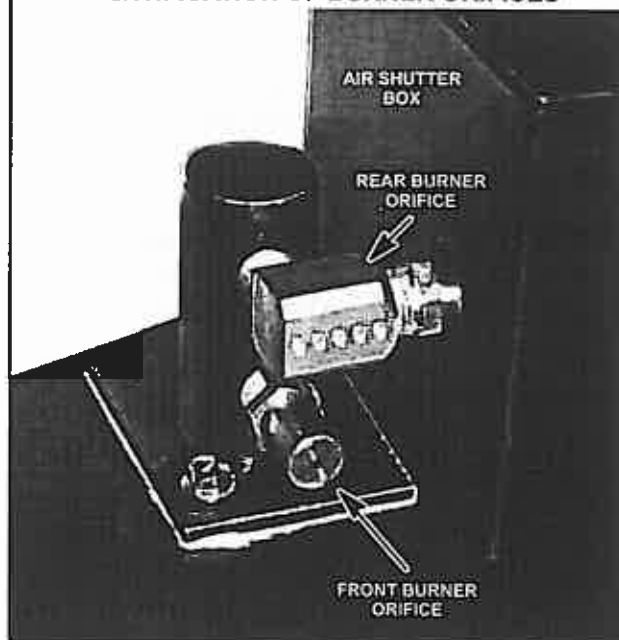

FIGURE 5
- Remove the existing burner orifices and replace them with the two orifices provided in the bag assembly. The orifice with the larger hole should be installed so that it serves the rear burner. The orifice with the smaller hole serves the front burner. See figure 5.